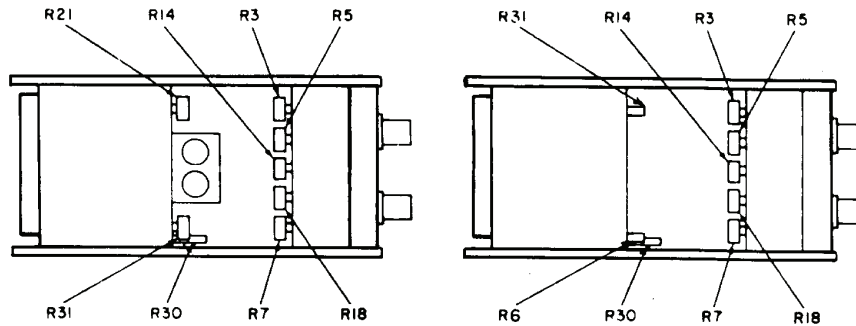

Figure 3. Adjustment locations - top view.
R18 affects all ranges and R30 affects ranges above 0.15 V. Because of interaction, adjustment of R18 and R30 (fig. 3) may have to be repeated until TI voltage indications are within specified limits.
(1) Adjust R21 (fig. 3) fully ccw, then adjust approximately 20 degrees cw (only SN 0982A22438 and below) (R).
(2) Adjust **ZERO ADJ** (rear of TI) for 0 meter deflection (may not appear on TI below SN 550).
(3) Adjust **ZERO ADJ** to return meter pointer halfway back to 0. For SN 0982A22439 and above, adjust R6 (fig. 3) until TI meter indicates 0 with **FUNCTION** switch in both **+DCV** and **-DCV** positions.
(4) Set calibrator for a 15 mV output.
(5) Adjust R18 (fig. 3) for a 0.015 V indication on TI (R).
- (1) Adjust R31 (fig. 3) for 0 indication on TI (R).
- (2) Fine adjust **AC ZERO** control for 0 indication on TI.
- (3) Adjust calibrator for a 0.5 V indication.
- (4) Adjust R3 (fig. 3) for a 0.5 V indication on TI (R).